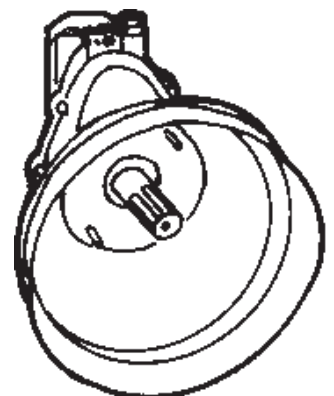

Fig.7 Connection of the cardan shaft
4.1.E - For machines driven by cardan shaft (GC)
- Connect the cardan shaft to the gearbox (fig.7 to the power take-off of the tractor. The cardan shaft must be of suitable length and complete with protective cover. Check that it clicks into place.